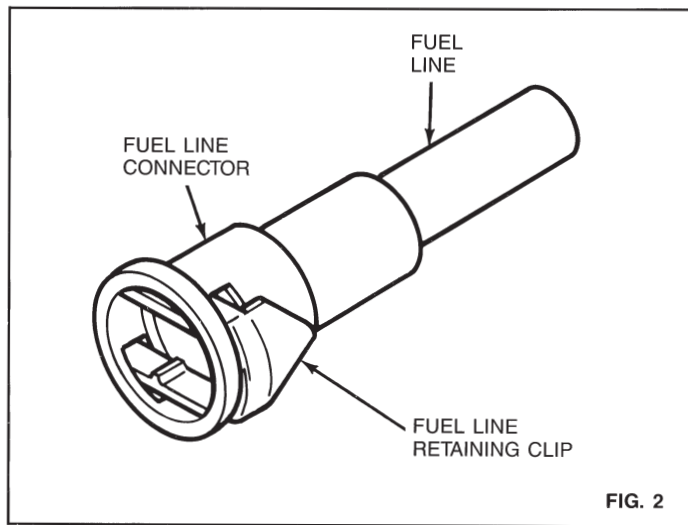

FIG. 2
B) Referring to Fig. 2, install the fuel line retaining clips, 5/16" (natural/clear) and 3/8" (black), into their respectively sized fuel line connector with the triangular portion of the clip facing away from the fuel line connector opening.